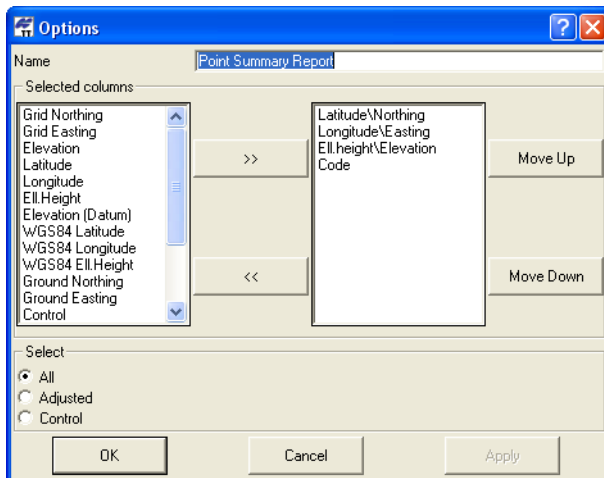

Figure 7-22. Item Options – Point Summary Report
- Point Summary Report – edit the name, select parameters to include or exclude using the move right/move left buttons, order the display of parameters using the Move Up/Move Down buttons, enable the type of points to apply the parameters to, and click **OK** (Figure 7-22).